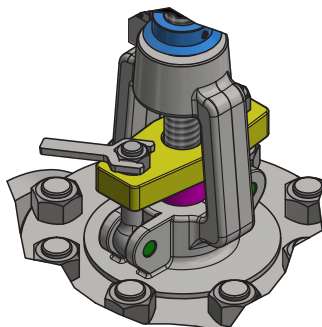

Figure C.28 – Stem packing gland tightening
- The control valve stem packing should be the subject of particular attention as it is important for the qualitative maintenance of tightness and shall be checked every 3 months. If leakage at the stem packing is detected, the gland nuts should be tightened slowly (Figure C.28). Torque for tightness gland nuts are shown in Table C.10. When gland nuts are tightened, if the gland falls down more than twice the packing ring height, new packing rings should be added to the stem packing.